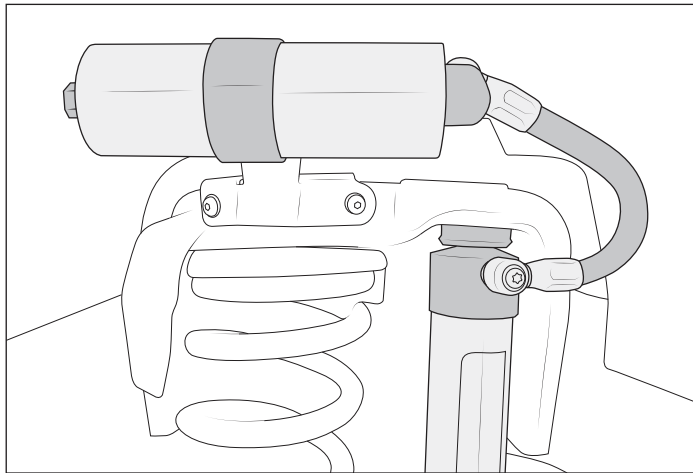

Figure 10
6. Hold reservoir mount in vehicle orientation (not vehicle position, there's not enough room to slide reservoir in place in vehicle position) and carefully slide reservoir into clamp, being careful not to damage paint on reservoir. Reservoir hose should point rearward from shock body, then loop up and forward to reach reservoir. Hose fitting on the reservoir should point inward toward center of vehicle and be at the rear of the reservoir when installed (fig. 10) Temporarily snug clamp bolt to prevent reservoir movement.
7. Install reservoir mount into previously drilled holes using provided M8x25mm button head bolts, washers, and nuts (fig. 10). Torque hardware to 30 ft-lb. Reservoir clamp can then be loosened to fine tune reservoir position and clocking. It should be roughly centered in the clamp with the hose fitting pointed straight inward toward center of vehicle. Reservoir can be clocked as needed to keep hose tight to wheel liner, but it should not make contact. Tighten the clamping bolt until snug, excessive force is not needed to hold the reservoir in place.